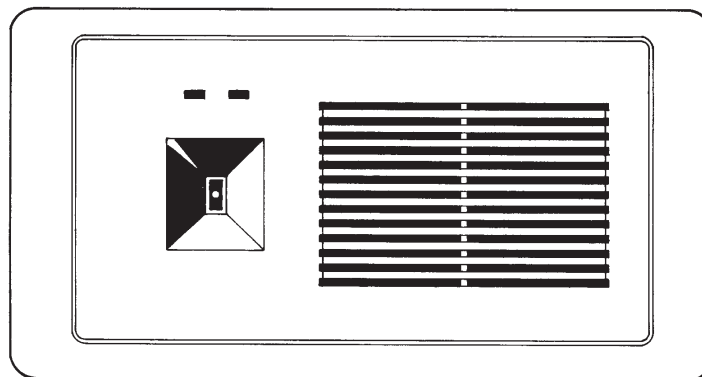

FIGURE 17 CARBON MONOXIDE DETECTOR
The carbon monoxide detector warns of excessive levels of carbon monoxide given off by internal combustion engines and some other fossil fuel burning appliances. Test the carbon monoxide detector after the trailer has been in storage, before each trip, and once a week during use. Note, the carbon monoxide detector requires a ten (10) minute warm up period once it is energized. See the manufacturer's operating instructions for operating and testing procedures. If the detector does not operate properly, have the detector repaired or replaced. (See figure 17)